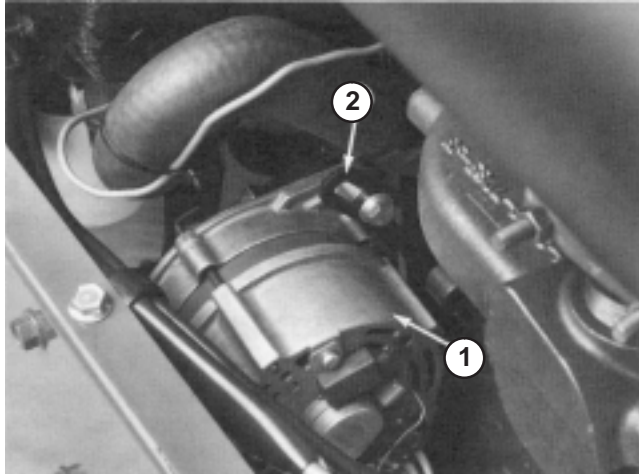

Figure 34
A new alternator belt (Fig. 34) is to be tensioned to 65 lbs. A used belt is to be tensioned to 40 lbs.
1. To adjust belt tension, loosen bolt securing brace to engine, bolt securing alternator to brace and alternator mounting bolt (Fig. 34).
2. Insert pry bar between alternator and engine and pry out on alternator (Fig. 34).
A new cooling fan belt (Fig. 34) is to be tensioned to 65 lbs. A used belt is to be tensioned to 40 lbs.